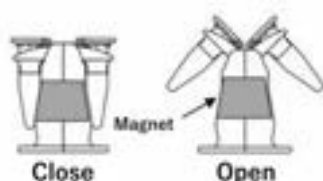

Figure 5: “Open” and “Close” position of Magnet stand.
(36) Vortex (Scale: 8) for 10 seconds. *When using cell suspension samples, perform this step carefully as cells are likely to aggregate.
(37) Incubate at room temperature (20-27°C) for at least 5 minutes, allowing nucleic acids to bind to the Magnetic Beads.
(38) Spin down in a benchtop centrifuge.
(39) Place the tubes on the Magnet stand and let them sit for 30 seconds to allow the magnet beads to settle. Then, remove the solution.
(40) Remove the tubes from the Magnet stand and spin down in a benchtop centrifuge. This operation is performed to thoroughly remove the solution.
(41) Place the tubes on the Magnet stand, and after letting them sit for 15 seconds, remove the solution.
(42) Remove the Sample Tube from the Magnet stand, add 400 µL of DNase Mixture, aspirate with a pipette at least 4 times to disperse the Magnetic Beads, and place on a tube rack. Do not set the tube on the Magnet stand. *When using cell suspension samples, perform pipetting step more thoroughly.
(43) Let the tubes stand on the tube rack for 5 minutes or longer at room temperature (20-27°C).
(44) Place the tubes on the magnet stand, and after letting them sit for 30 seconds, remove the solution.
(45) Open the Magnet stand (See Fig.5) and add 900 µL of 1st-Wash Buffer (1) (ik2) with an electronic pipette (Mode: P/M), pipette at least 4 times to ensure sufficient dispersion.
(46) Close the Magnet stand (See Fig. 5), and after letting them sit for 30 seconds, remove the solution.
(47) Open the Magnet stand and add 900 µL of the 2nd-Wash Buffer (2) (ik2) using an electronic pipette, and pipette at least 4 times to ensure sufficient dispersion. Use the same pipette setting as (45).
(48) Close the magnet stand, and after letting the tubes sit for 30 seconds, remove the solution.
(49) Remove the tube from the magnet stand and spin down with a benchtop centrifuge, then set it on